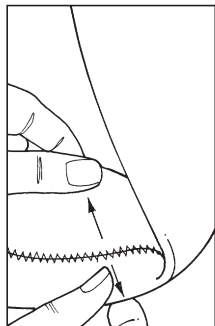

Fig. 24-5
5. Remove any pins and open the hem. Pull the stitching line flat and press the hem. (Fig. 24-5)